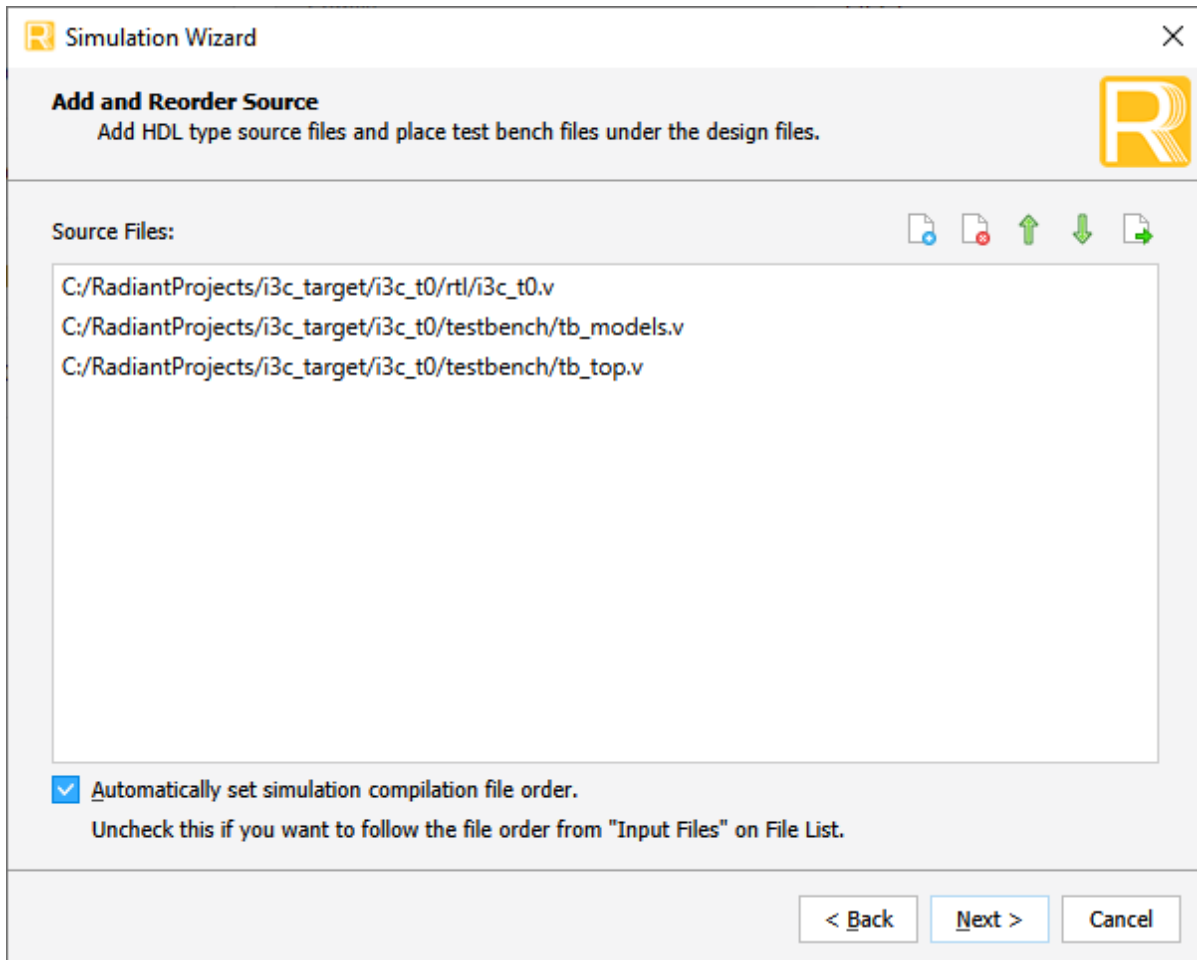

Figure 3.5. Adding and Reordering Source
2. Double-click **Next** to open the Add and Reorder Source window as shown in Figure 3.5.